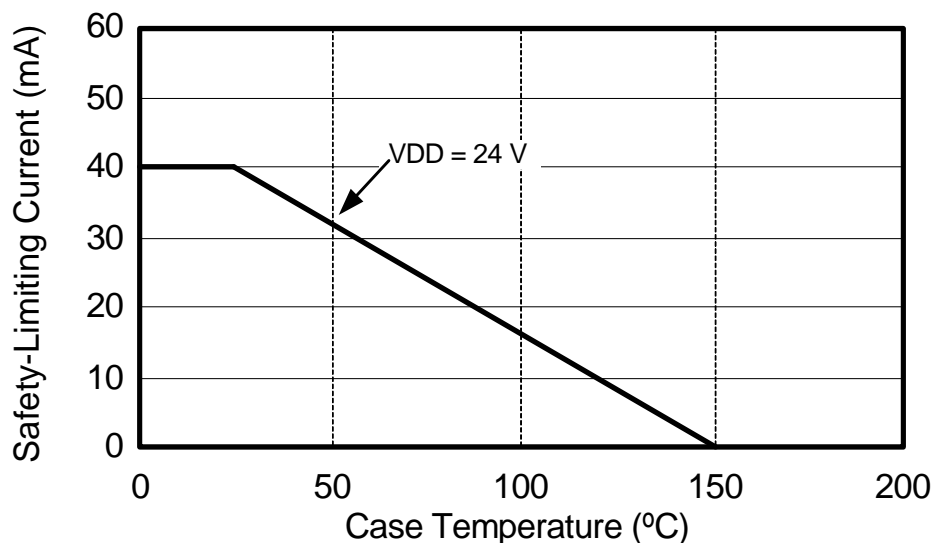

Figure 5. (NB SOIC-8) Thermal Derating Curve, Dependence of Safety Limiting Values with Case Temperature per DIN EN 60747-5-5
- Maximum value allowed in the event of a failure; also see the thermal derating curve in Figures 5 and 6.